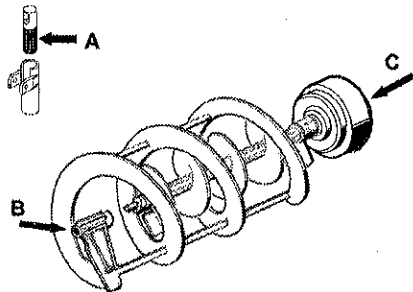

figure 11
- 2 - Lubricate faucet piston, inside auger and outer spiral (see points A, B and C of figure 11) only with the grease supplied by the manufacturer or other **food grade approved** lubricant.